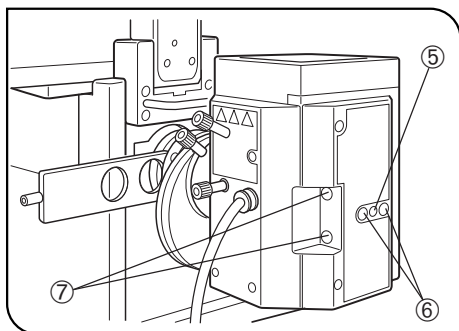

Fig. 8
8. Turn the burner centering knobs ④ to bring the arc image on the center of the right (left) half of the field. (B)
9. Fit the Allen screwdriver in the mirror focusing screw (⑤ in Fig. 8) on the rear of the lamp housing and adjust it to bring the mirror arc image in focus. (C)
10. Turn the burner centering knobs ④ to overlay the arc image with the mirror arc image. (D)